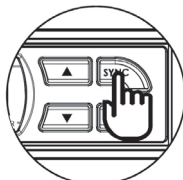

Figure 6
1. Press the synchronizing button on the receiver (Fig 6).